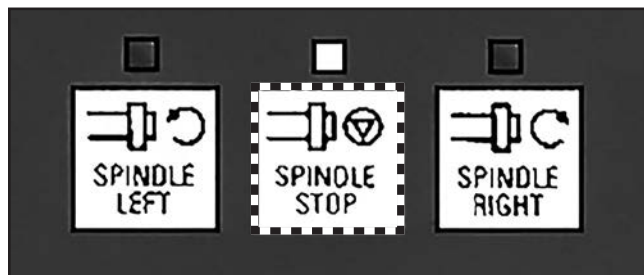

Figure 93. Spindle control keys on MCP.
- Press SPINDLE STOP key (see **Figure 93**).